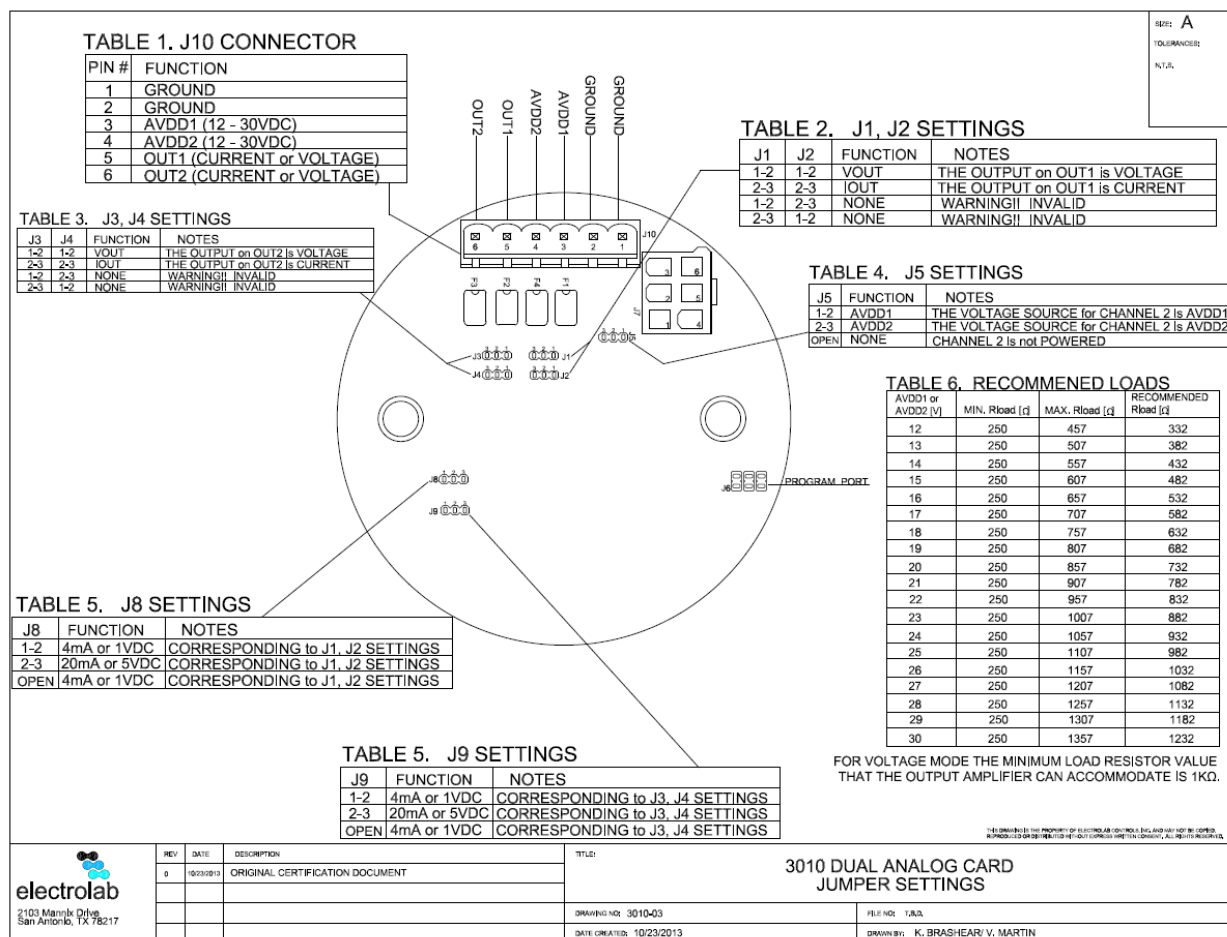

Figure 1. 3010 Dual Analog Card Jumper Settings
The sensor must be configured to communicate at 9600n81. The board has two output modes, 1-5v and 4-20mA. The board has 7 jumper selectable settings (see *Figure 1, 3010 Dual Analog Card Jumper Settings*):
When the board is powered up, the LED will blink 5 times every 0.4 seconds and stop. The outputs will be set according to the jumpers. See Figure 1. *3010 Dual Analog Card Jumper Settings* above.
1. Disconnect the fuse board from the sensor and connect the 3010 according to the wiring diagram in Figure 1.